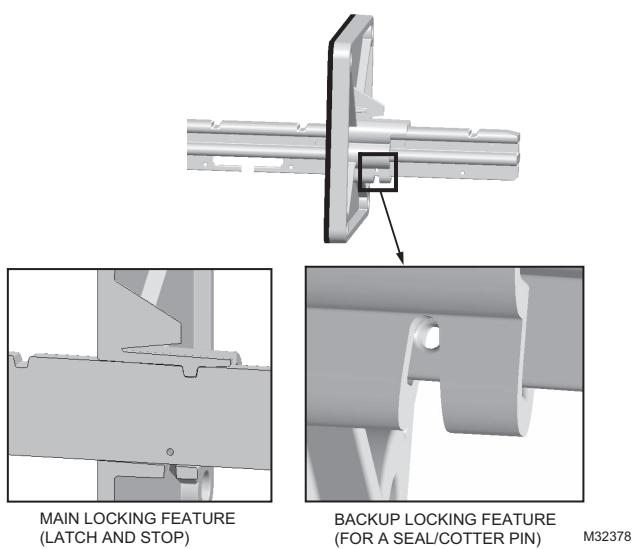

Fig. 6. Locking features.
The sensor length on the rod can be adjusted from 6 to 12 inches in increments of one inch. The flange has a relief tab for ease of adjusting the rod on the flange as shown in Fig. 5 on page 3. The rod and flange have two locking features (shown in Fig. 6 on page 4), to hold the sensor (which attaches to the end of the rod) in the airflow at the desired position:
8. Determine the locking feature that you wish to use. See Fig. 6 on page 4.
10. In addition to the detent locking feature, there is a hole at each detent position that can be used to secure the position of the rod with a seal or cotter pin (not supplied). See Fig. 6 on page 4.